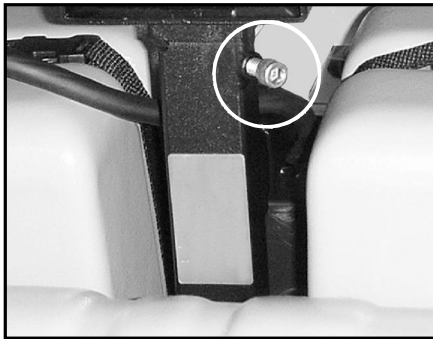

Figure 7F
3. Using the 1/4 inch hex wrench supplied with the vehicle, loosen the cap screw located at the top-front corner of the seat post. (See Figure 7F, page 44).